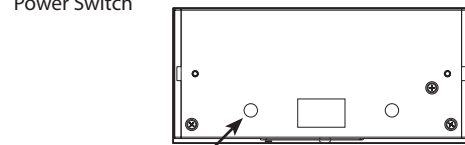

Fig: 2
- Alternate Knockouts** for 24" or 32" only (Fig. 2 and 3). **Alternate Knockouts** are located along back and top of **Housing**. Remove **Wiring Compartment Cover**.